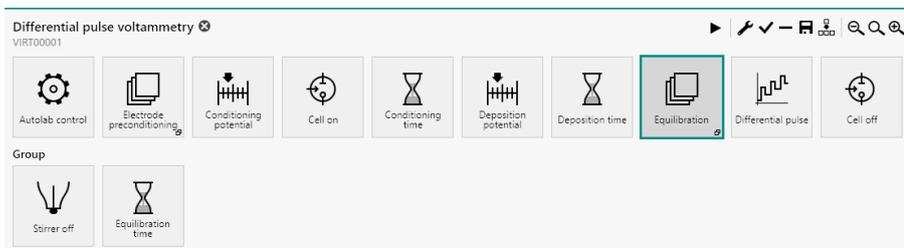

Figure 627 The Equilibration group
- Equilibration:** this command group is used to create an equilibration step in the procedure. The commands in this group are used to switch the stirrer off and wait for the specified amount of time (see Figure 627, page 524).